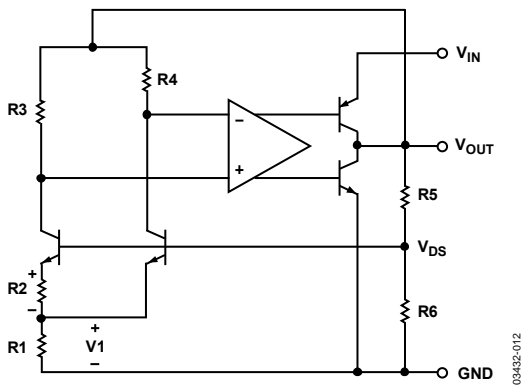

Figure 12. Simplified Schematic
The ADR370 uses the band gap concept to produce a stable, low temperature coefficient voltage reference suitable for high accuracy data acquisition components and systems. This device makes use of the underlying temperature characteristics of a silicon transistor's base-emitter voltage ( $V_{BE}$ ) in the forward-biased operating region. Under this condition, all such transistors have a  $-2 \text{ mV}/^\circ\text{C}$  temperature coefficient (TC) and a  $V_{BE}$  that, when extrapolated to absolute zero, 0 K, (with collector current proportional to absolute temperature), approximate the silicon band gap voltage. By summing a voltage that has an equal and opposite temperature coefficient of  $2 \text{ mV}/^\circ\text{C}$  with a  $V_{BE}$  of a forward-biased transistor, an almost zero TC reference can be developed. The simplified circuit diagram in Figure 12 shows how a compensating voltage,  $V_1$ , is achieved by driving two transistors at different current densities and amplifying the resulting  $V_{BE}$  difference ( $\Delta V_{BE}$ , which has a positive TC). The sum ( $V_{BG}$ ) of  $V_{BE}$  and  $V_1$  is then buffered and amplified to produce a stable reference voltage of  $2.048 \text{ V}$  at the output.